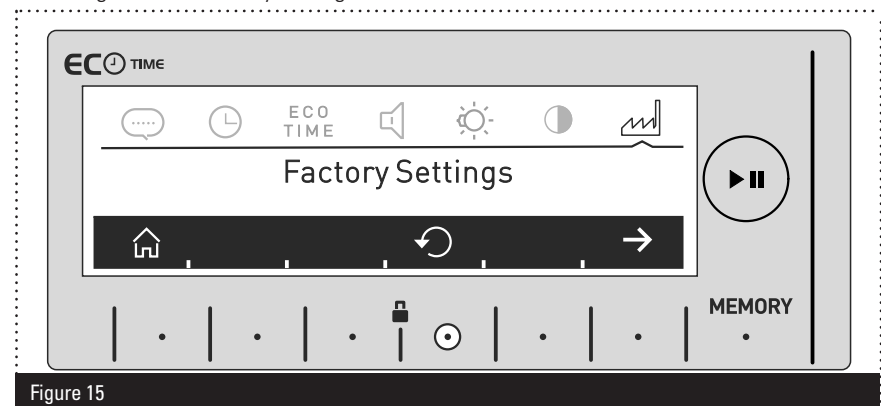

Figure 15
- » Press the menu button on the main programme screen and then press the > button until the screen shown in fig 15 is displayed. If you are already in the setting menu, use the > button to navigate to the factory settings screen.